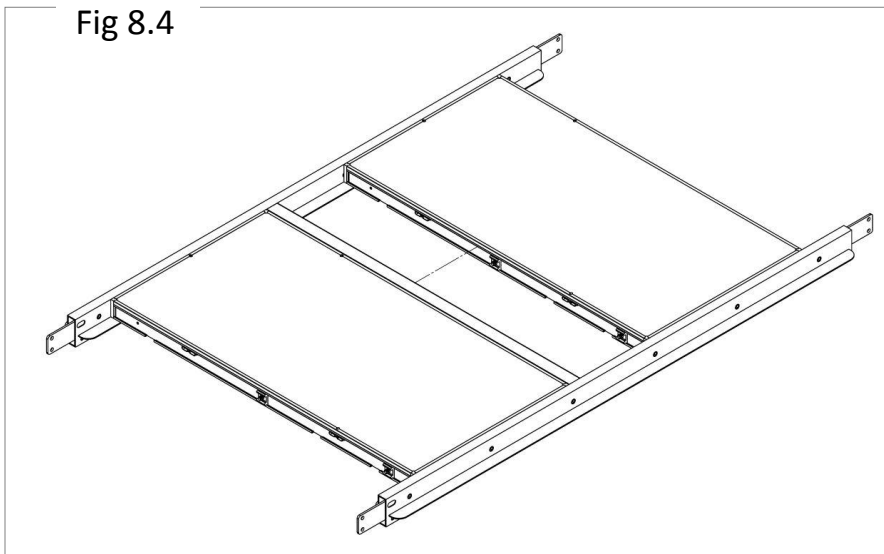

Fig 8.4
- Whenever a Filler is used it must be between two Decks. See figure 8.4